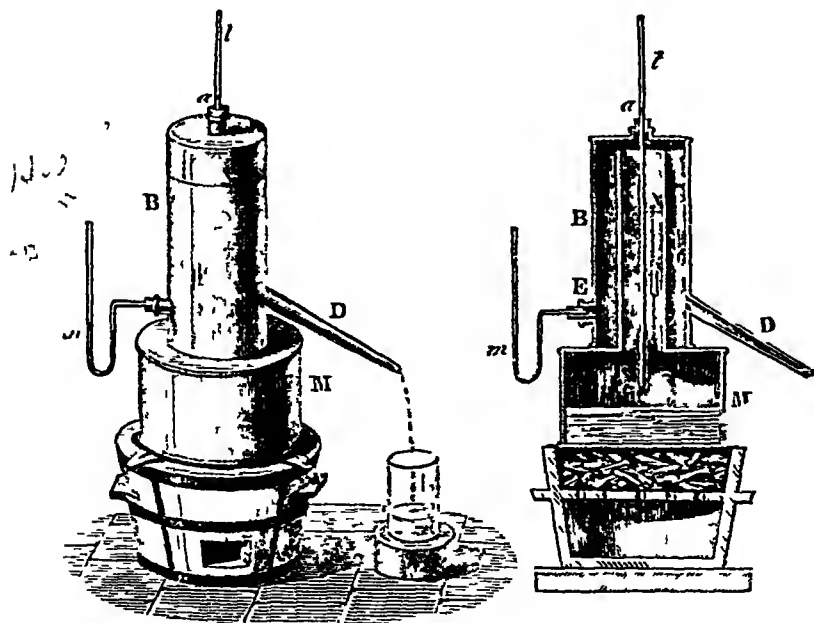

FIG 7
**II THE BOILING-POINT** — The bulb is placed in a metallic vessel (fig 7), so